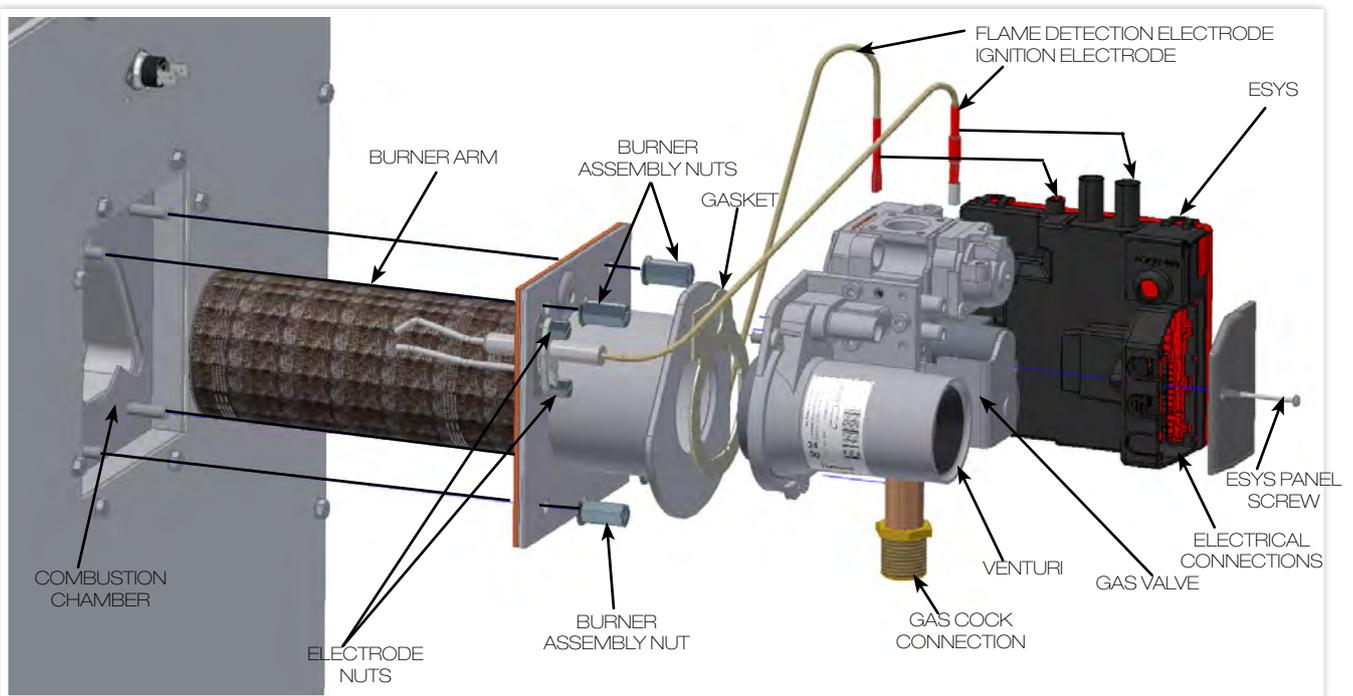

FIGURE 29. MAIN BURNER ASSEMBLY
- 17.10.1 Refer to section 16.3 and See Figure 29.
- 17.12.1 Refer to section 16.3. See Figure 29.
- 17.13.1 Refer to section 16.3. See Figure 29.
- 17.14.1 Refer to section 16.3. See Figure 29.